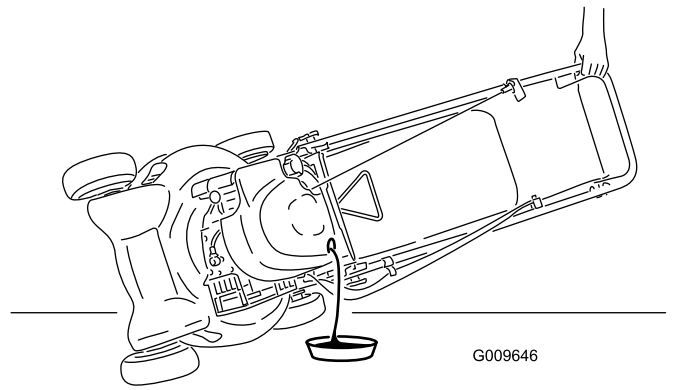

Figure 23
3. Tip the mower onto its side, with the dipstick down, to drain the used oil out through the oil fill tube (Figure 23).